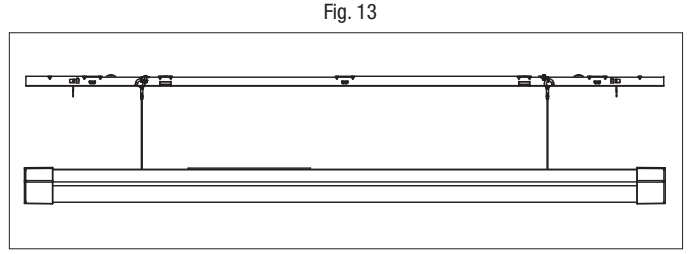

Fig. 13
7. This fixture is equipped with easy mounting features to help installation. Locate the two slots on the fixture housing assembly indicated by the arrows as shown in (Fig. 12). Now locate the temporary hanging tabs on the fixture mounting channel (B) also indicated with arrows. (Fig. 13) Orient and hang the fixture housing assembly (A) using cables with hooks so that the slots are on the same side as the temporary hanging tabs as shown in (Fig. 13 & 14).